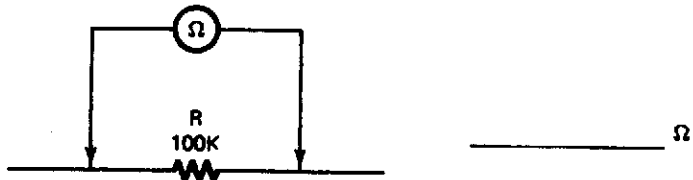

FIGURE 2-3D
7. Adjust the function-select switch to the $\times 100,000$ range. Zero the meter and then connect it to a $100\text{-k}\Omega$ resistor, as illustrated in Fig. 2-3D. Record the resistance (in ohms) shown by the needle on the ohms scale. The range selected for this measurement was $\times 100,000$, which means that the number to which the needle points will be multiplied by 100,000.